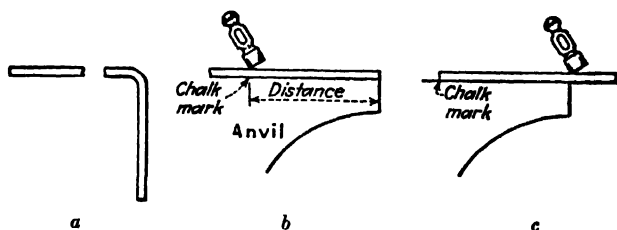

Fig. 20-12. Laying off the length for a bend.
**Bending Eyes.** When it is required to forge an eye on the end of a rod or bar, enough of the piece to form the eye is bent at a right angle having nearly a square corner, as shown in Fig. 20-12*a*. This amount is equal to the mean circumference of the eye.
eye. When the work is heated, ready to bend, it is laid along the anvil with the end of the work flush with the end of the anvil, as in Fig. 20-12*b*, or flush with the chalk mark, as in Fig. 20-12*c*, whichever is preferred. Then the edge of the hammer is placed on the piece at the point where the bend is to be made, and, with the hammer in this position, both work and hammer are moved to the slightly